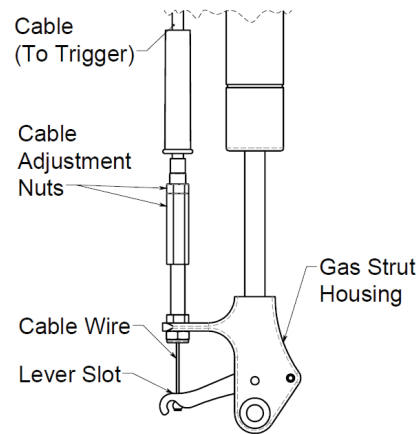

Figure 16.44: Cable Assembly
1. If the chair does not tilt when trigger is pulled – the cable wire is too loose and needs to be tightened. To do so, remove the rubber sleeve above the gas strut housing that covers the adjustment nuts. Loosen the locknut first and turn the 'tightening nut' (shown in **Figure 16.44**) so that more thread is showing above the nut. Check tilt function and if acceptable tighten locknut and refit rubber sleeve.